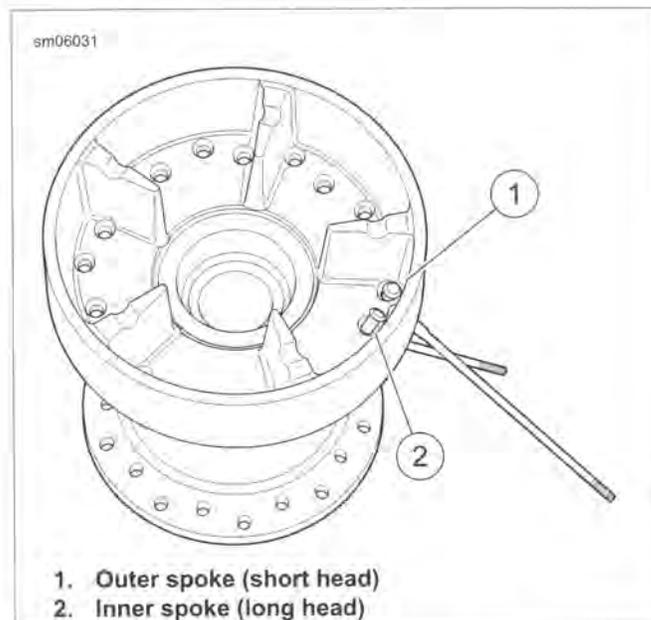

Figure 2-18. Lacing Wheel Hub
3. See Figure 2-18. Place hub on workbench with the brake disc side down. Insert outer spokes (1) (short-head) into the outer holes and inner spokes (2) (long-head) in the inner holes.